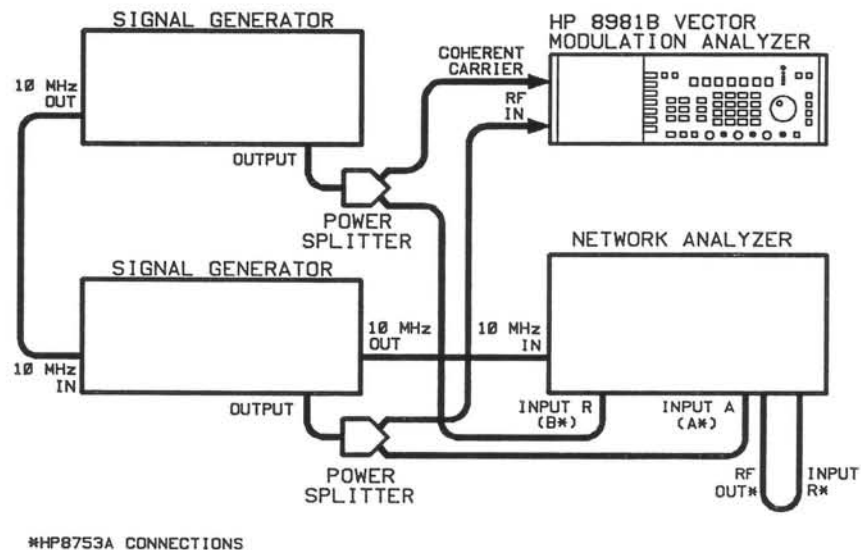

Figure 4-16. Corrected dc Accuracy Test Setup
2. Connect the equipment as shown in Figure 4-16.